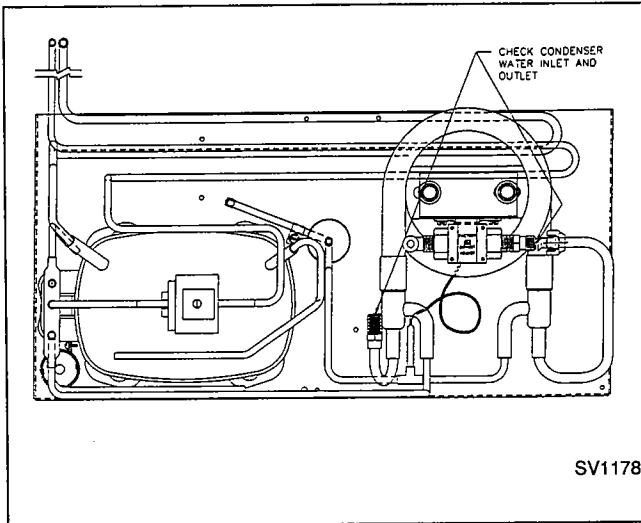

FIGURE 33. CONDENSER LEAK CHECK POINTS
9. Check condenser water inlet and outlet with electronic leak detector. If a leak is detected, replace condenser. See Figure 33.